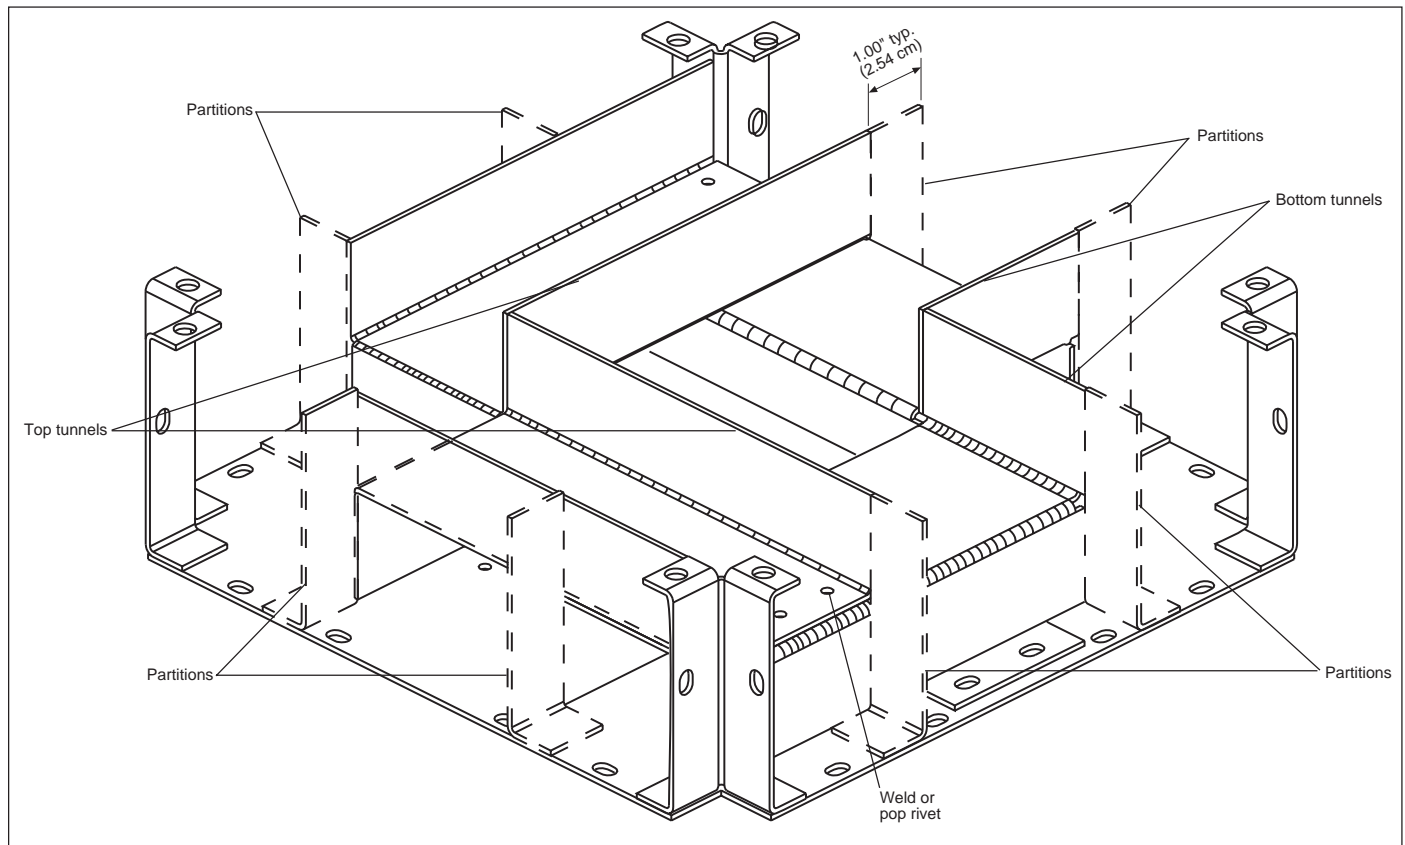

Figure 1: Cross Application—RWT10PXE and RWT18PXE
1. Position both tunnels in the cross as shown in figure 1. Leave a 1.00" (2.54 cm) gap between the edge of the base plate and the edge of the tunnel.
4. Position both top tunnels as shown in figure 1. Using the slot in the end of the top tunnels as a template, drill 11/64" (0.44 cm) diameter holes.
Align all partitions with all the tunnels as shown in figure 1. Gaps between tunnels and partitions must not exceed 1/8" (0.32 cm).